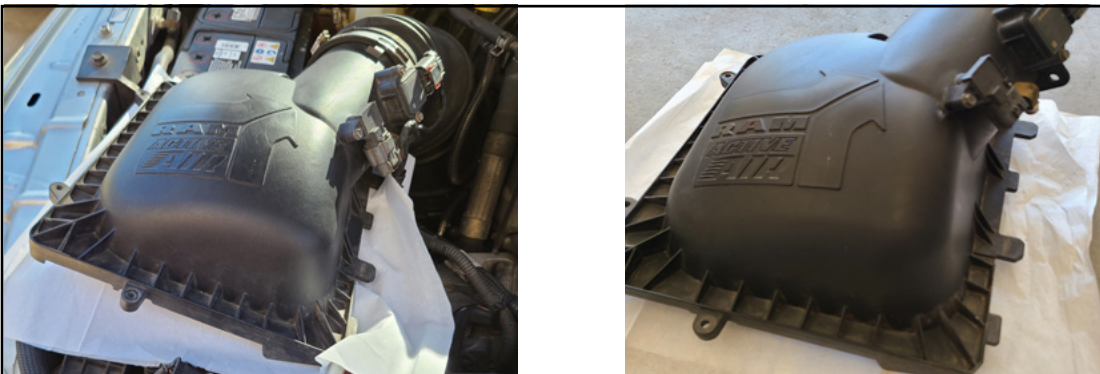

Figure 3: Removing the Air Housing
2. Open the air filter housing or fully remove if necessary and drill an 11/16" hole in the marked location. (Using a step drill bit is recommended.) (See Figures 3 and 4.)